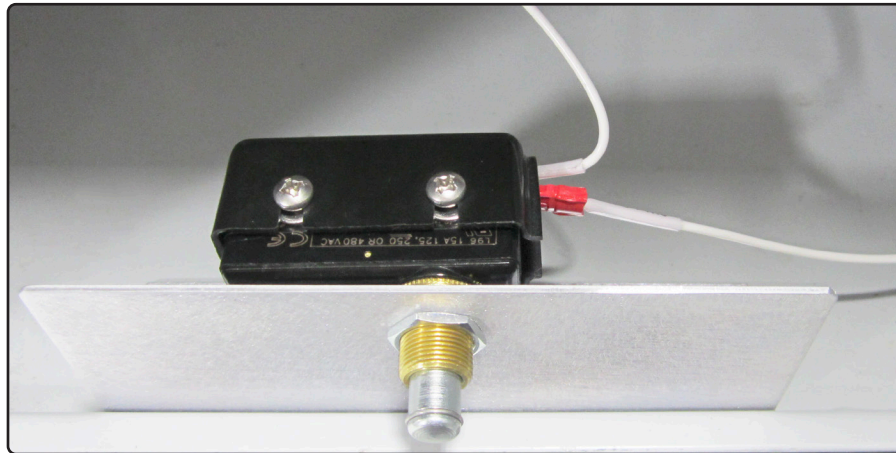

Figure 35 Front Door Switch 1 Mounted on Bracket
- b. Place the switch into position through the hole on the bracket, with the wires extending from the **right side** of the switch, as you face the front of the bracket. Secure the switch onto the bracket using the other provided nut to lock the switch in place (Figure 35).